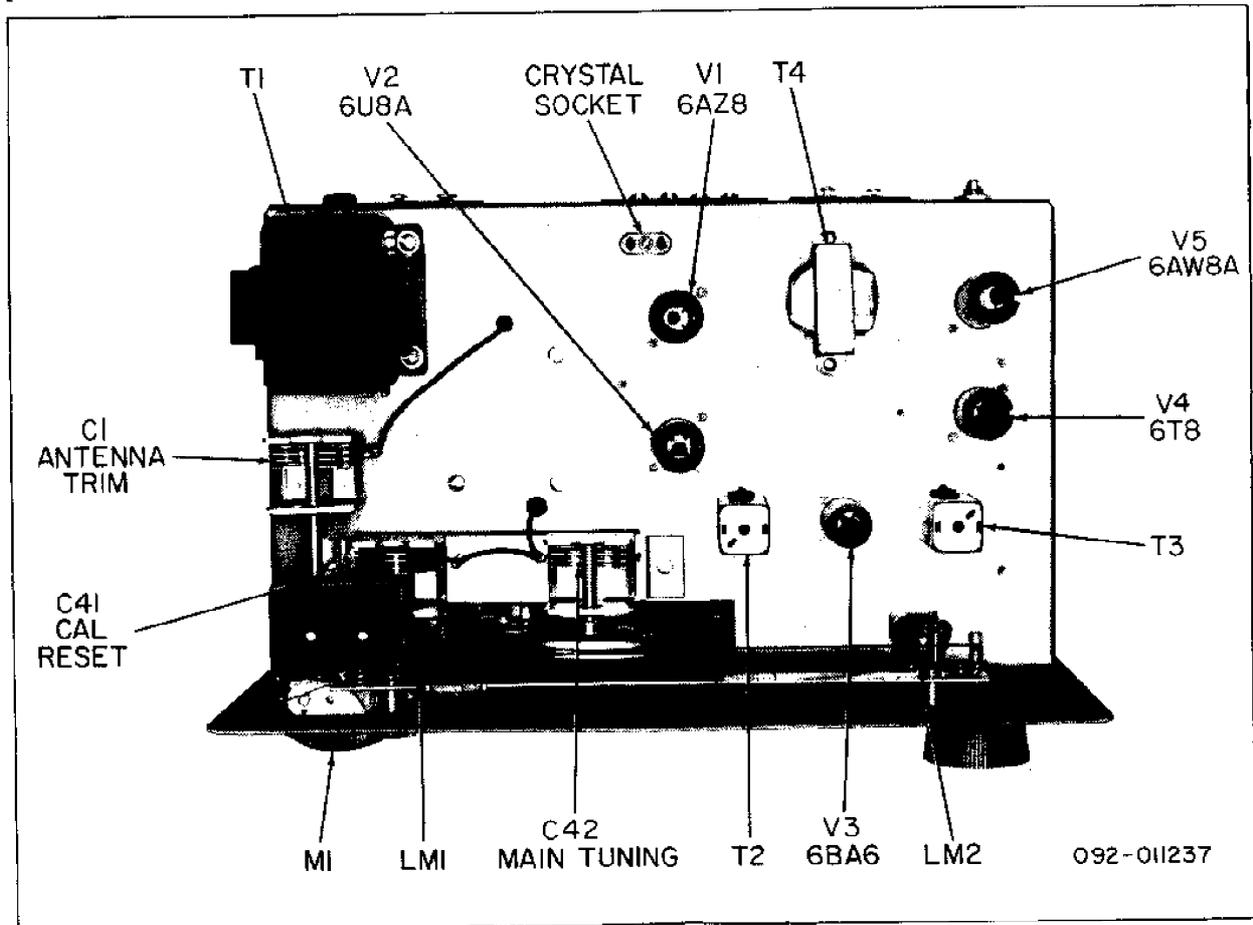

Figure 8. Top View Alignments.
A special crystal oscillator circuit (with crystal) has been incorporated into the receiver to enable the operator to accurately calibrate each band. A 3.5-MC crystal inserted into the crystal socket (see fig. 8) provides a signal that will zero-beat with the local oscillator to provide a calibration marker at the low frequency edge of the 80, 40, 20, 15 and 10 meter bands and at 52.5 MC on the 6 meter band. For calibration of the receiver preset the controls as indicated:
To gain access to the tubes and dial lamps, remove the chassis from the cabinet (see para. 6-2). The location of the tubes and dial lamps are shown in figure 8.
2. Insert 1650-KC crystal in crystal socket (see fig. 8).
5. Adjust the slugs in the IF transformers, T3 and T2 (see figures 8 and 9), for maximum deflection on the carrier level meter; make adjustments in the following order.